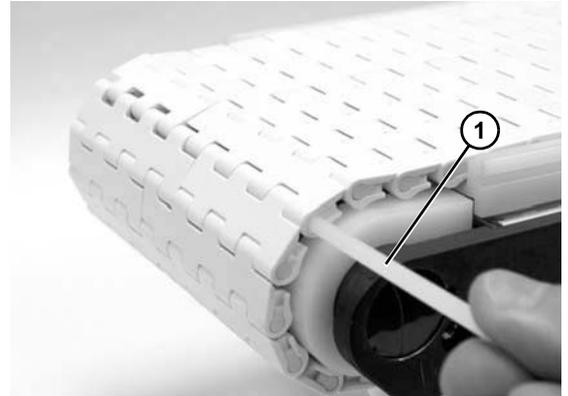

Figure 39
4. Splice the belt together by pushing the plastic rod (Figure 39, item 1) through the side hole.